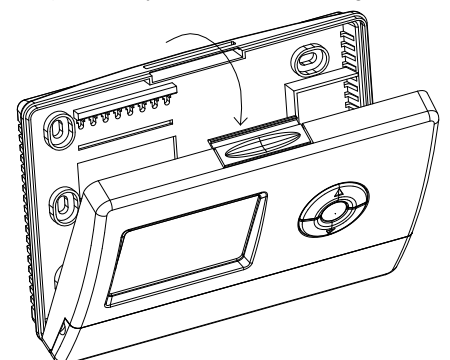

Figure 2
- Remove the wallplate from your thermostat. See Figure 2.
- Insert the tabs on top of the thermostat body into the slots at the top of the wallplate. Press the bottom of the thermostat body into the snap on the bottom of the wallplate. Refer to Figure 2. NOTE: Do not force the thermostat onto the wallplate, as the terminal pins may be damaged. If it does not snap properly, the thermostat may not work.